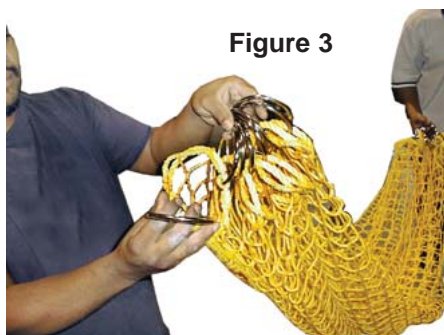

Figure 3
**4.** Gather the MezzNet and slide the Retaining Rings over each column. See Figure 3.